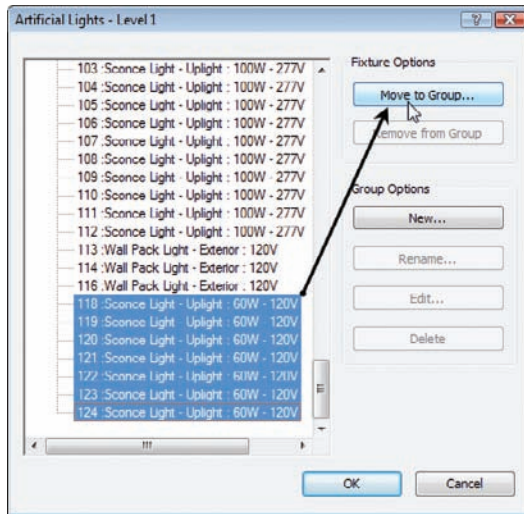

FIGURE 19.12 Moving the selected lights to the new group
5. Scroll down to the bottom of the list and locate the lights Sconce Light - Uplight : 60W - 120V. Select all of them, as shown in Figure 19.12.